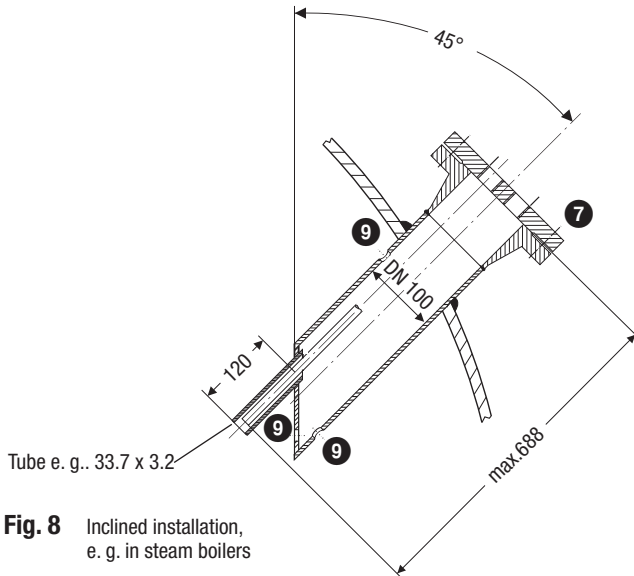

Fig. 8 Inclined installation,
- The angle of inclination of the electrode must not exceed 45°, with the length of the electrode rod being limited to 688 mm. **Fig. 8**